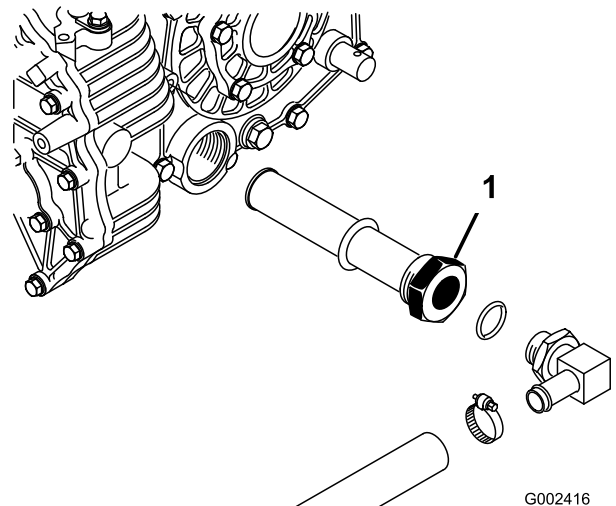

Figure 65
3. Note the orientation of the hydraulic hose and 90 degree fitting connected to the strainer on the side of the reservoir (Figure 65). Remove the hydraulic hose and 90 degree fitting.